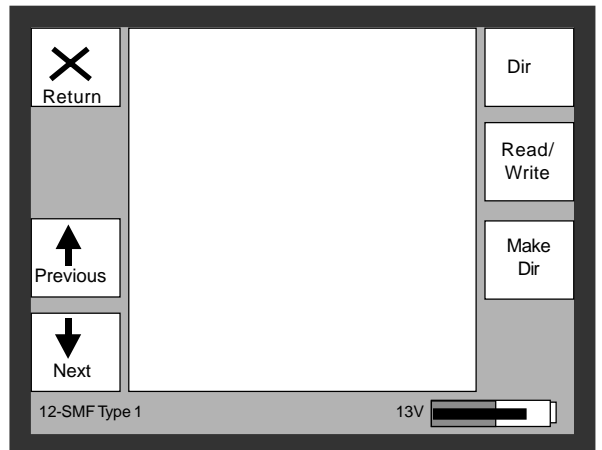

Fig. 87 - Monitor display after pressing RUN
2. The monitor changes as illustrated in fig. 87. At this point the window is empty.